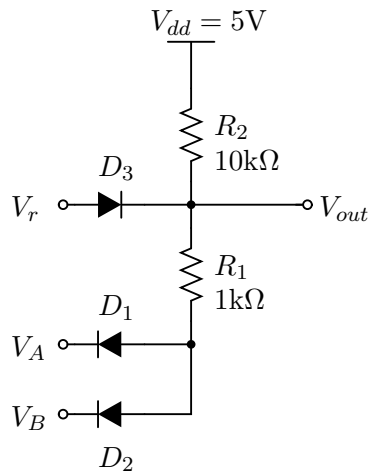
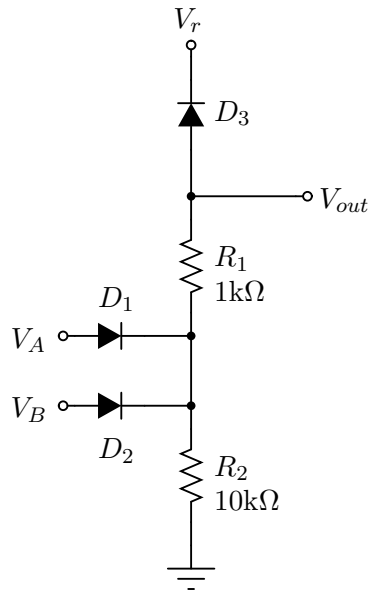

Figure 1: AND gate.
Figure 3: OR gate.
A diode AND gate is shown in Figure 1 and the voltage transfer characteristics are sketched in Figure 2. The circuit is designed such that all of the diodes are reverse-biased (off) when both input voltages are HIGH (5V). If either one of the input voltages are decreased below $V_{DD} - V_{D,on}$ then the corresponding input diode becomes forward-biased (on) and a current starts to flow through the resistors. The output voltage will then decrease due to the voltage drop across the $10k\Omega$ resistor. V_{out} will continue to decrease as either of the input voltages decreases until D_3 becomes forward-biased. This occurs when V_{out} decreases to $V_r - V_{D,on}$. This is as low as the output voltage can go since the voltage drop across D_3 is approximately constant as long as it is forward-biased. An analysis of the circuit at the point where D_3 just starts to conduct reveals that at least one of the input voltages must be, as low as,
Set up the circuit of Figure 1. Use a value of 2.5V for V_r measure the output voltage for each of the combinations of input voltages $V_A, V_B = 0, 5\text{V}$. Verify that circuit performs as an AND gate. Set up the circuit of Figure 3. Measure the output voltage for each of the combinations of input voltages. Verify that the circuit behaves as an OR gate.
2. Analyze the circuits in the Figures 1 to 5.